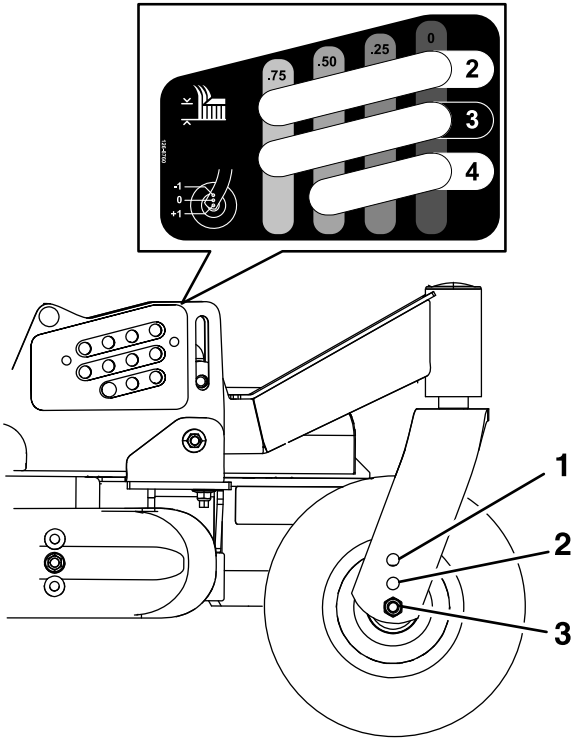

Figure 28
- B. Adjust the front and rear gauge wheels to the appropriate hole location (see the chart below and Figure 28) and install the mounting hardware.